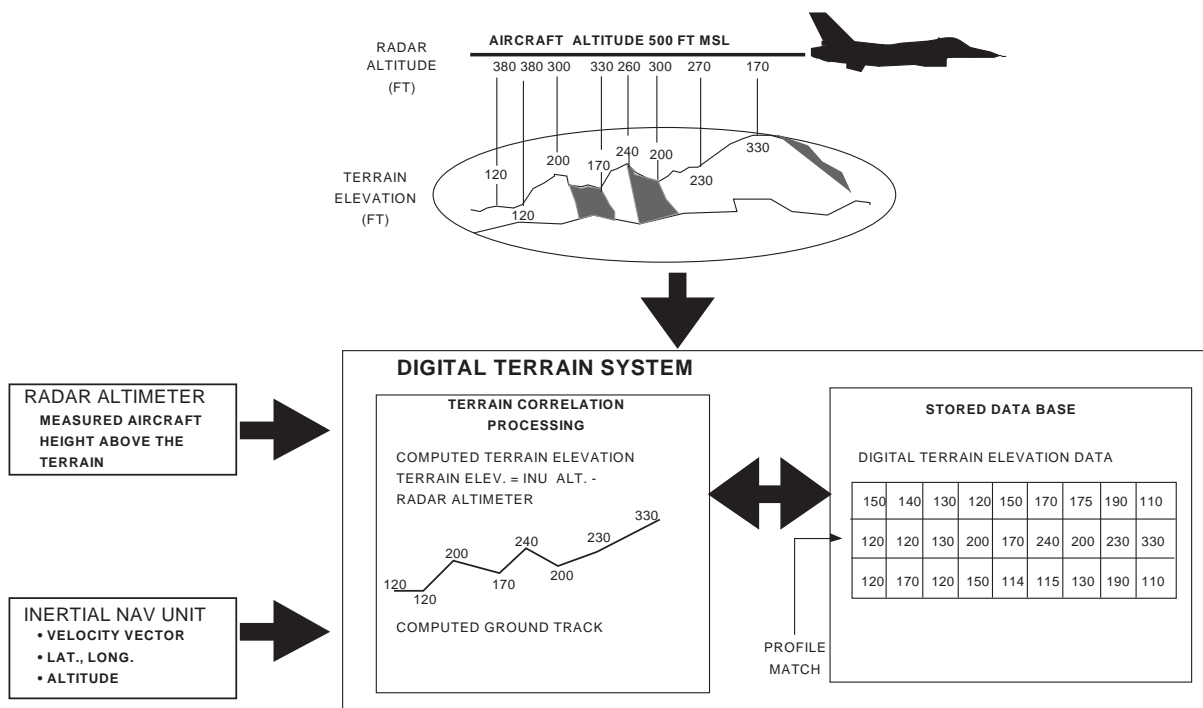

Figure 2-31 DTS Terrain Correlation Process
ter "observations" of the local terrain. The radar altimeter measurements (observations) are correlated with the terrain database to arrive at an estimate of aircraft horizontal (X,Y) and vertical (Z) position (Figure 2-31). The TRN function also "guestimates" the accuracy of its own estimated horizontal and vertical positions and provides them to the F-16 core avionics in the form of Horizontal and Vertical Position Uncertainty (HPU and VPU) data. HPU is TRN's estimation of the accuracy of its own X and Y position solution and can be thought of as a TRN Circular Error Probability (CEP). VPU is the estimation of the linear accuracy of the TRN Z-axis solution and can be thought of as a "plus or minus" kind of value. Low positions uncertainty indicate high confidence in the accuracy of the respective position estimate(s). Table 2-1 reflects position uncertainty values and their related position confidence ratings.